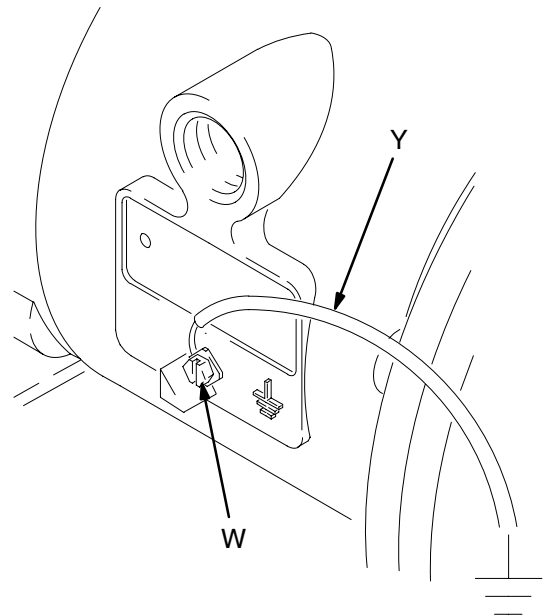

Fig. 1
- **Pump:** Connect a ground wire and clamp as shown in Fig. 1. Loosen the grounding screw (W). Insert one end of a 12 ga (1.5 mm2) minimum ground wire (Y) behind the grounding screw and tighten the screw securely. Connect the clamp end of the ground wire to a true earth ground. Order Part No. 222011 Ground Wire and Clamp.